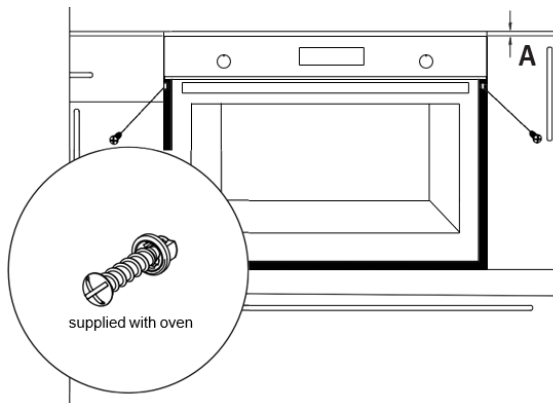

Figure 4
- Screws must be mounted as shown in figure 4 by passing them through the plastic attached to frame of the product. Screws must not be over tightened.
- After mounting, the clearance between lower and upper part of the counter is indicated in figure 4 with "A = 5mm" is for ventilation and should not be covered.